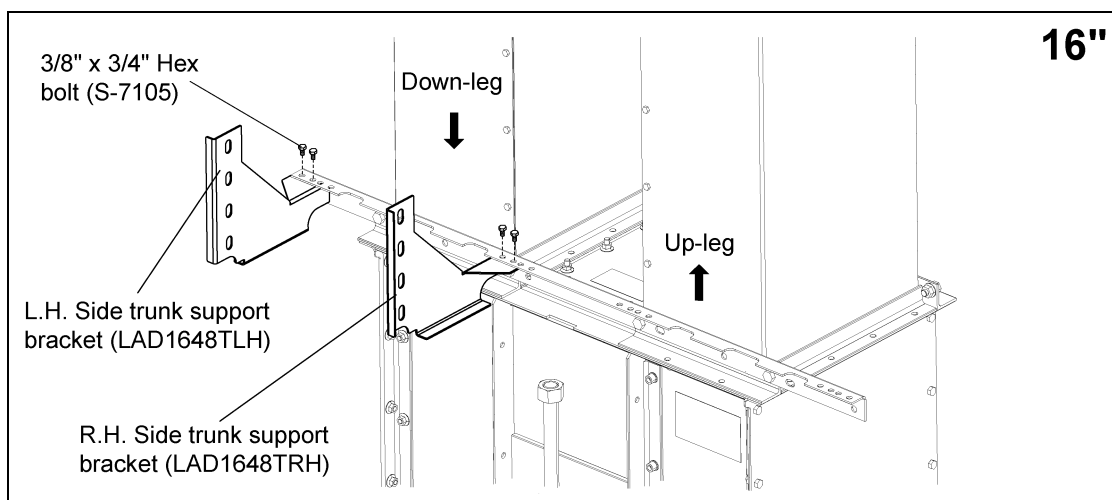

Figure 4L 16" Boot Bracket Down-Leg
1. Use 3/8" x 3/4" hex bolts to attach ladder support brackets to the boot tie angle using holes indicated for the size elevator. Remember to double check if the ladder should start on the up-leg side or the down-leg side. (See Figures 4L-4Q on Pages 20 and 22.)
- a. **If using the 16" down-leg:** Use 3/8" x 3/4" hex bolts to attach the ladder support brackets to the boot tie angle using the holes indicated in Figure 4L. Note the outer bracket uses the outer most holes of the tie angle and the inner bracket will have two (2) empty holes beside it on the tie angle.